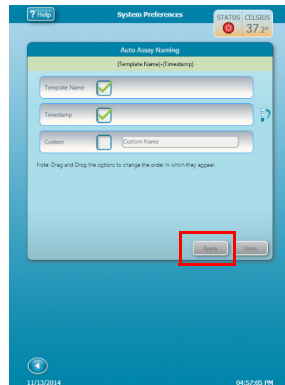

Figure 19. Auto assay naming window
Auto Assay Naming allows one to specify the default name for each Assay Result File (*.asyr) that is created on the XFp Analyzer. See Figure 19 on page 32.
- 1 Adjust the order of each variable by dragging and dropping the selection in the order desired. Figure 19 on page 32 shows the configuration (Template Name) – (Timestamp)